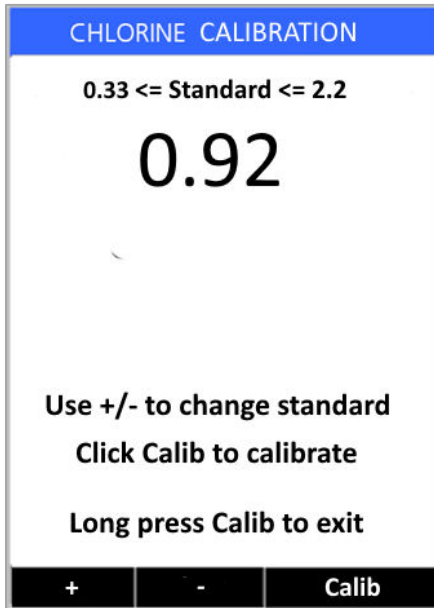
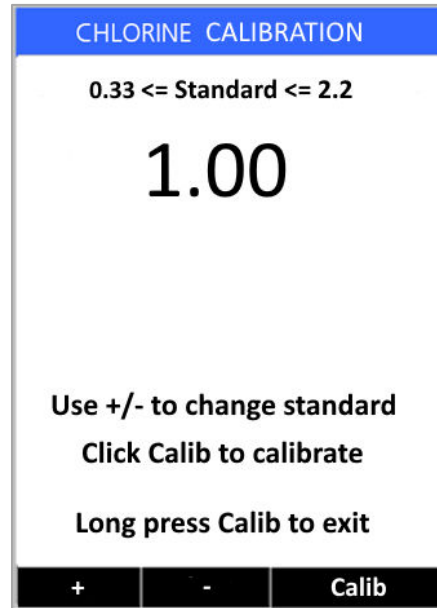

Figure 7. Slope calibration page
Figure 8. Adjust standard value
- Click the **SLOPE** button (labeled with >) to start slope calibration as Figure 7 and click + (labeled with <) or - (labeled with >) to adjust the standard value to 1.0 as Figure 8.